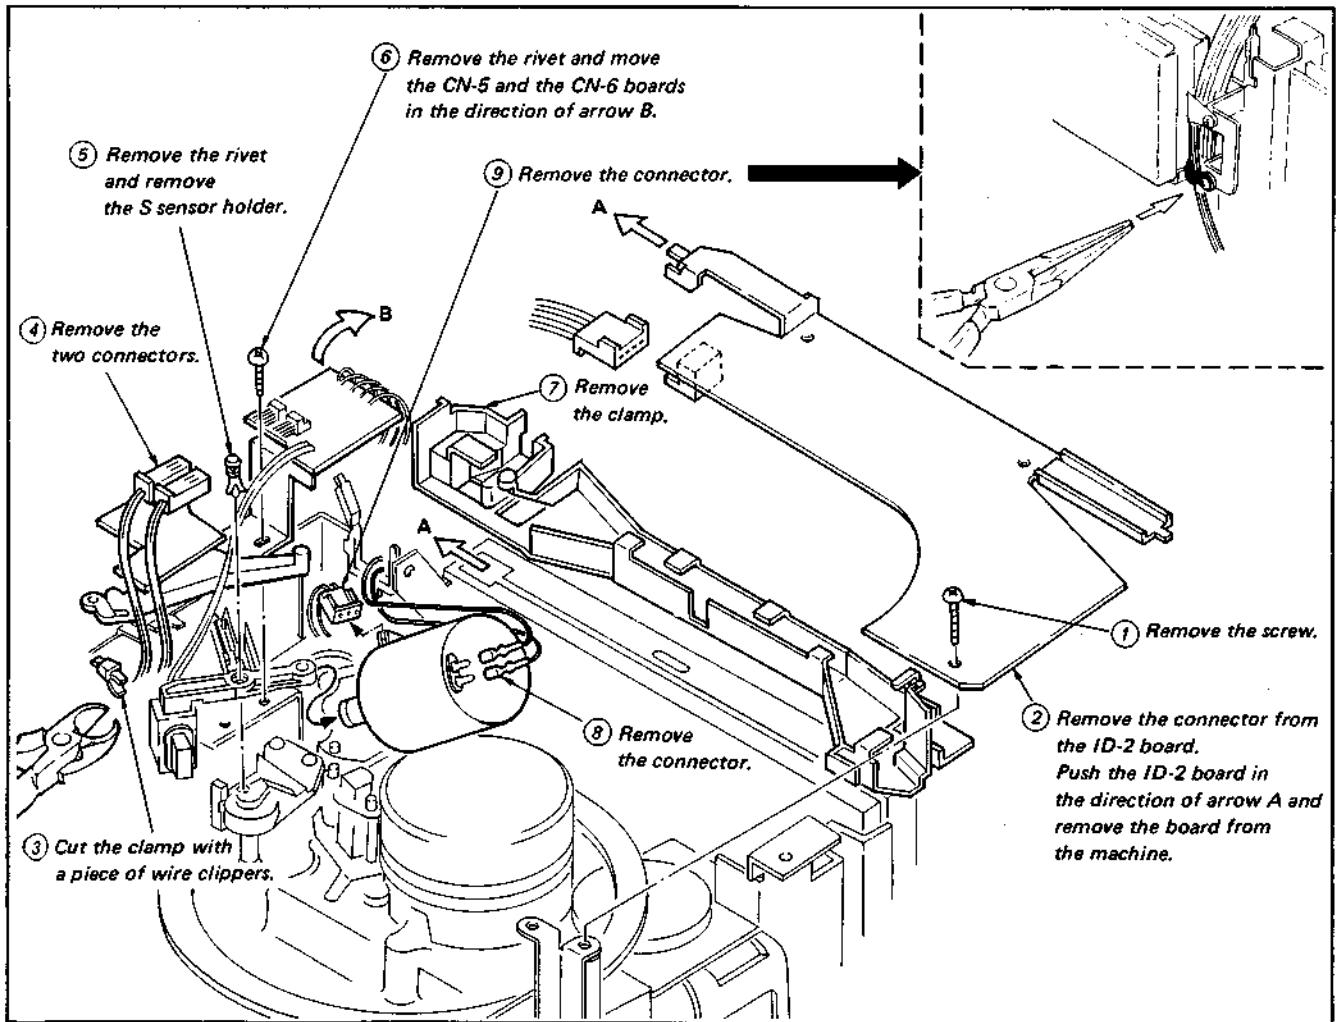

Fig. 3-8. Replacement of DC motor (2)
3. Take out the DC motor, following Steps ① to ⑨ shown in Fig. 3-8.